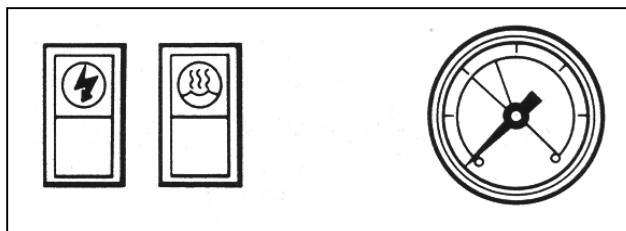

Figure 2. Steam Generator Controls
There are two steam generator control arrangements and two steamer compartment control panels available for Cleveland Range Convection Steamers. The steam generator controls are illustrated in Figure 2. The steamer compartment control panels are illustrated in Figures 3 and 4. Compare these figures with the equipment supplied, and identify which control panel combinations applies.
The steam generator controls are located on the front face of the steamer base unit. The switches are to the left of the pressure gage, as illustrated in Figure 2 Most Cleveland Range Convection Steamers have a steam generator built into the base unit which supplies steam to the cooking compartments. However, an external steam supply may also be used. Units with a built-in boiler have both the POWER rocker switch and the STEAM momentary switch next to the pressure gage. Units with no internal generator have the POWER rocker switch only. They do not have the STEAM momentary switch.
a. Press the ON end of the POWER on-off rocker switch located next to the steam pressure gauge (Figure 2). The red indicator light in the POWER rocker switch turns on and the steam generator begins to fill with water units takes about 5 minutes.